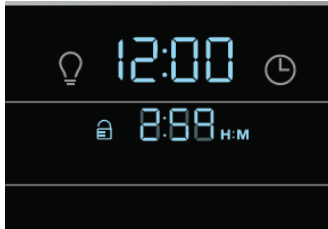

Figure 29: Clean cycle in progress
4. During the clean cycle the time of day remains in the display and the time remaining in the clean cycle will also be active. (Figure 29)